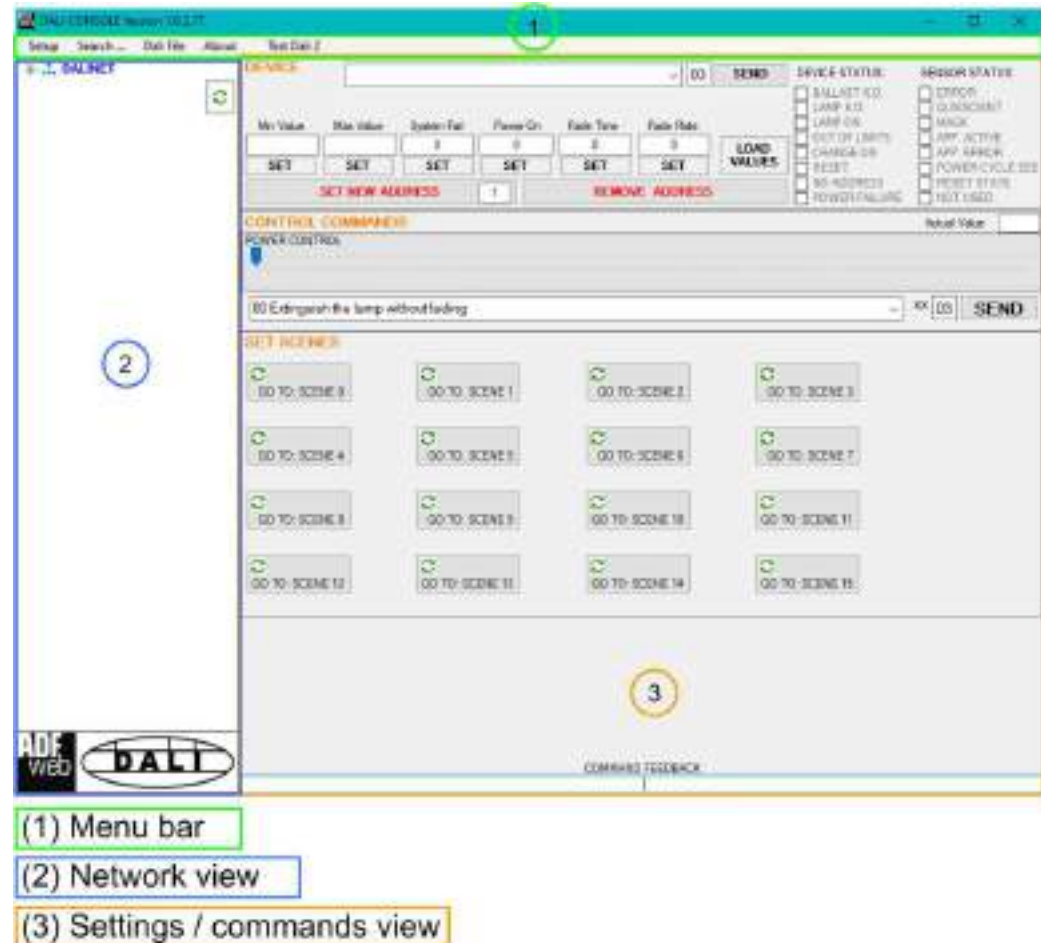

Figure 8: Structure of DALI Console software
- **"Menu bar"** (Fig. 8, Point 1): it is possible to open the setup window ("Setup" menu), scan the DALI network and program automatically the IDs ("Search..." menu), export/import the results of the communication ("Dali File" menu), see the informations about the DALI Console software ("About" menu) and test DALI 2 communication ("Test Dali 2" menu).
- **"Network view"** (Fig. 8, Point 2): it is possible to see all the DALI devices/sensors connected to the HD67843 converter, the groups and the scenes set;
- **"Settings / commands view"** (Fig. 8, Point 3): it is possible to set and manage the parameters to the single DALI device/sensor, to the groups or for the full network.